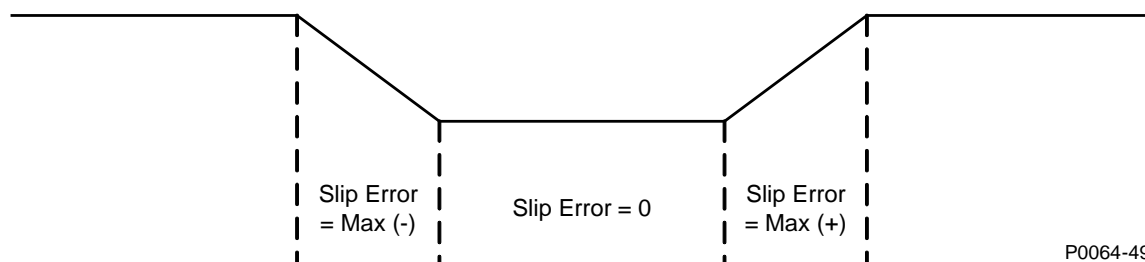

Figure 57. Slip Frequency Error
Generator frequency correction is defined by the slip frequency and further refined by the breaker closing angle. The slip frequency setting establishes the maximum allowable deviation of the generator speed (frequency) from the bus frequency. The Min Slip Control Limit setting and Max Slip Control Limit setting are used to calculate the slip frequency error and to provide continuous slip frequency control while in phase lock synchronization. If the slip frequency magnitude is above the Max Slip Control Limit, the error is set equal to the Max Error in the opposite polarity. If the slip frequency magnitude is below the Min Slip Control Limit, the error is set equal to the Max Error in the opposite polarity. When it is between the two limits, the error is zero (0). Slip frequency error is shown in Figure 57.